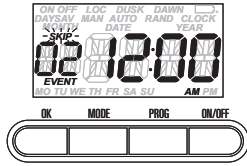

Fig. 13
12. While viewing an event screen, press **PROG**. The **SKIP** display (or **ON** or **OFF**, if the timer has been programmed) will begin flashing (Fig.13).